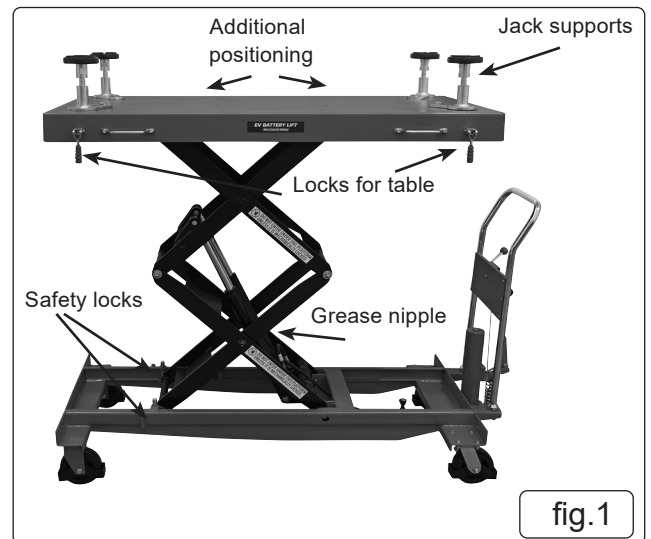

fig.1
- ✓ Regularly grease the hinge points (fig.1).